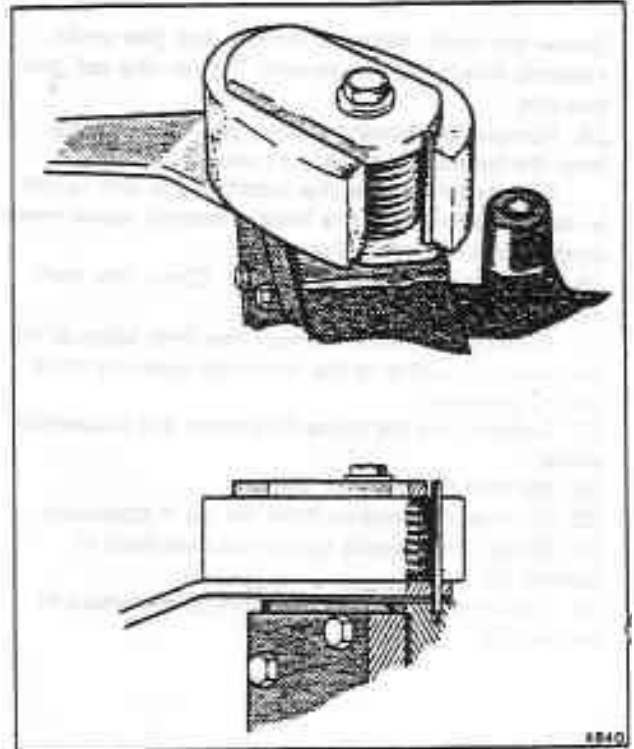

Fig. G12-3 Height control valve actuation arm location pin
15. With the height control links disconnected, fit the location setting pins into the height control levers (see fig. G12-3).
25. Remove the location setting pin (where fitted) from the height control valves (see fig. G12-3).